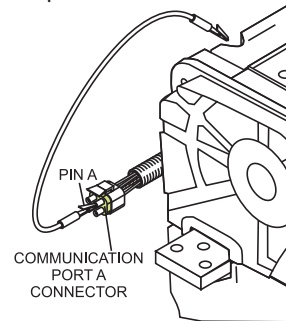

Figure 34. Com. Port A Connector/Jumper
5. Locate communication port A test connector as shown in Figure 34. Remove plastic cover so that the male connector pins are exposed.
6. Connect a jumper wire between the **brown/white** wire (pin A) on the com. port A connector and chassis ground. See Figure 34.